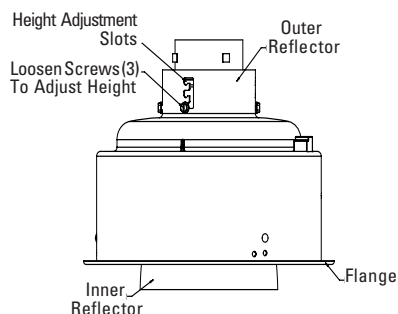

Figure 1
1. Pull down on flange to remove trim (see Figure 1).
2. If required, make inner reflector height adjustments by loosening the three screws attaching it to the outer reflector, selecting a slot and re-tightening screws (see Figure 1).